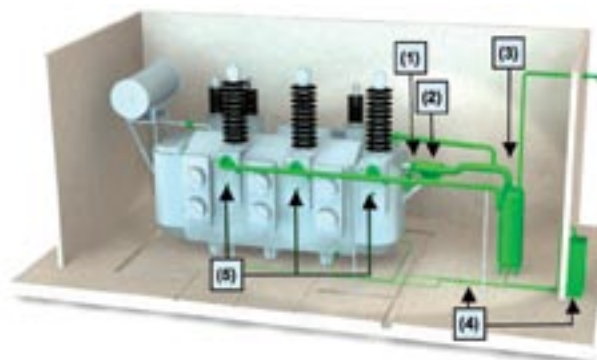

Figure 1: Transformer equipped with fast direct tank depressurization based method (TP)
Indeed, the electrical fault generates a dynamic pressure peak, which travels at the speed of the sound inside the transformer oil, 1,200 Meter per second (4,000 feet per second). This dynamic pressure peak bursts a rupture disc located in the DS (Item 1 in Figure 1). Oil and gas are then quickly expelled out of the transformer tank through the DS (located in 2) to an oil gas separation tank (item 3). The explosive gases are then channeled away to a remote and safe area.